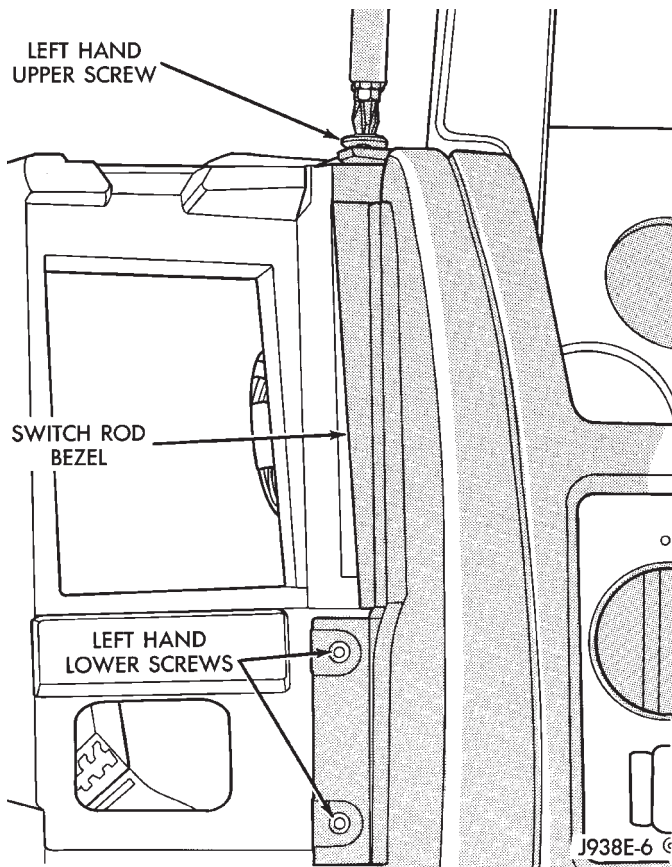

Fig. 15 Left Hand Switch Pod Bezel Screws
- (19) Remove 2 screws holding left side of switch pod bezel (Fig. 15).